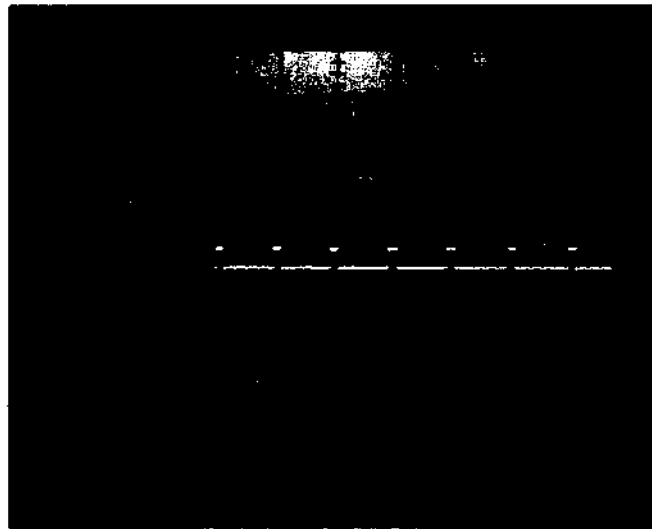

Figure 5-22. Display Blanked at 3-MHz Marker
- 1. Adjust TUNE control to place 10 MHz marker at right edge of screen. Select 1 MHz markers and adjust A14R27 3 MHz so that display blanks just before the 3.0 MHz marker, as in Figure 5-22.